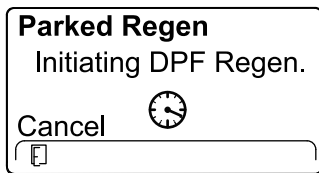

Figure 52
- At the INITIATE DPF REGEN screen, press the right button to continue (Figure 52).